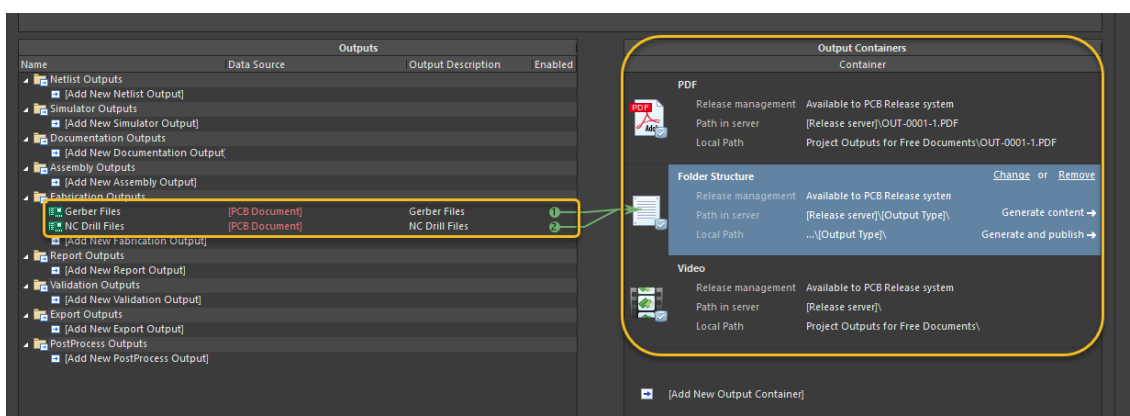

Figure 22. Output Containers
79. On the right side of the OutJob editor, you'll find, among other elements, two Output Containers: a PDF (which is currently not in use) and a file generator named *Folder Structure* for Gerber and NC Drill, Figure 22.